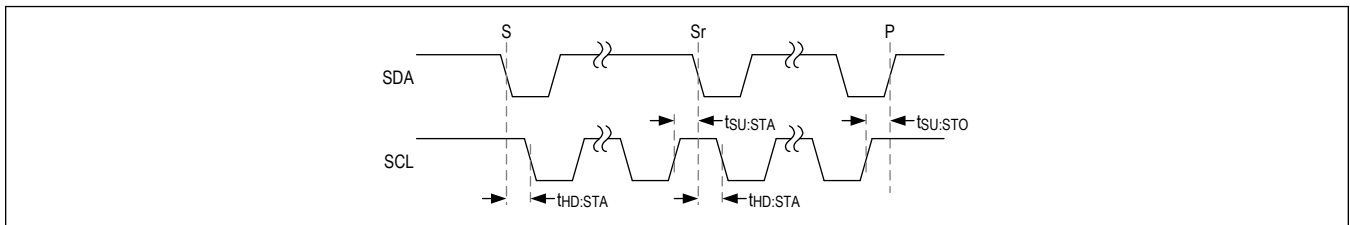

Figure 4. START, STOP and REPEATED START Conditions
A master device initiates communication by issuing a START condition. A START condition is a high-to-low transition on SDA with SCL high. A STOP condition is a low-to-high transition on SDA while SCL is high (Figure 4). A START (S) condition from the master signals the beginning of a transmission to the MAX20459. The master terminates transmission, and frees the bus, by issuing a STOP (P) condition. The bus remains active if a REPEATED START (Sr) condition is generated instead of a STOP condition.